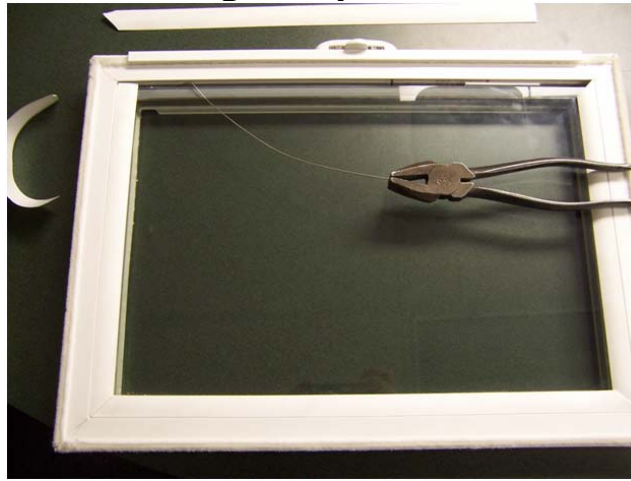

Fig2
- To seal the Capillary Tube we recommend you first crimp the end closed using a “Lineman’s” type pliers, or any type of pliers that has flat parallel jaws, and has a high force at the jaw. You want to crimp 3/8” minimum, and crimp the tube straight on, not from the side (fig2).